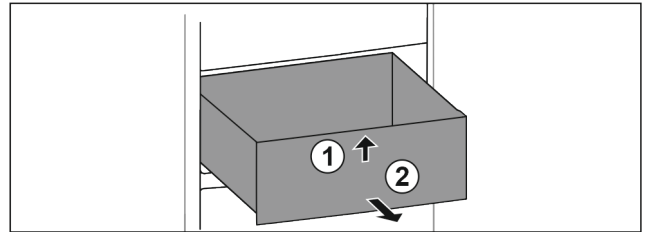

Fig. 34
► Lift up drawer at the front. Fig. 34 (1)
► Remove drawer to the front. Fig. 34 (2)